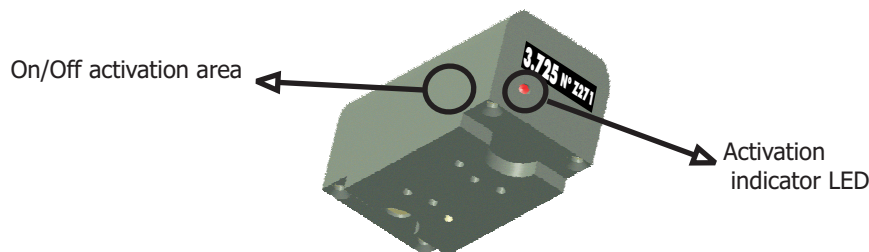

Fig.2. On/Off activation area.
- Keep a magnet in the ON/OFF activation area (see Fig. 2)